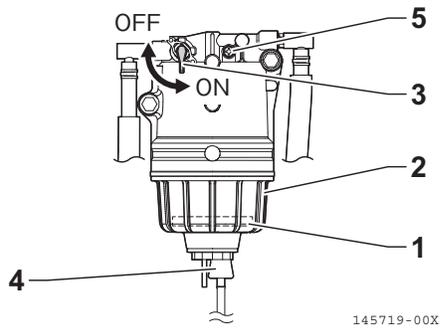

Fig. 3-4
2. Check the pre-filter to see whether the float (red ring) (**Fig. 3-4, 1**) has sunk down to the cup (**Fig. 3-4, 2**) bottom and a contamination has not mixed into the oil.
If the float (**Fig. 3-4, 1**) has sunk down to the cup (**Fig. 3-4, 2**) bottom, no water has mixed into the oil; if the float (**Fig. 3-4, 1**) is floating in the cup (**Fig. 3-4, 2**), water is mixed into the oil under the float (**Fig. 3-4, 1**).
If the water or the contamination is found in the cup (**Fig. 3-4, 2**), remove it as the procedure below.
3. Turn the fuel cock (Fig. 3-4, 3) to the OFF position.
4. Place a container receiving fuel under the hose from the drain cock (Fig. 3-4, 4).
5. Loosen the drain cock (Fig. 3-4, 4) about 4 turns, and drain the water and contamination.
If no water drips when the pre-filter drain cock (Fig. 3-4, 4) is opened, loosen the air bleeder bolt (Fig. 3-4, 5) on the top of the pre-filter by using a screwdriver to turn it counterclockwise 2 to 3 turns. After draining the pre-filter, be sure to tighten the air bleeder bolt (Fig. 3-4, 5).
6. Hand-tighten the drain cock (Fig. 3-4, 4).
7. Wipe off fuel and water adhering to the hose of the drain cock (Fig. 3-4, 4).
8. Turn the fuel cock (Fig. 3-4, 3) to the ON position.